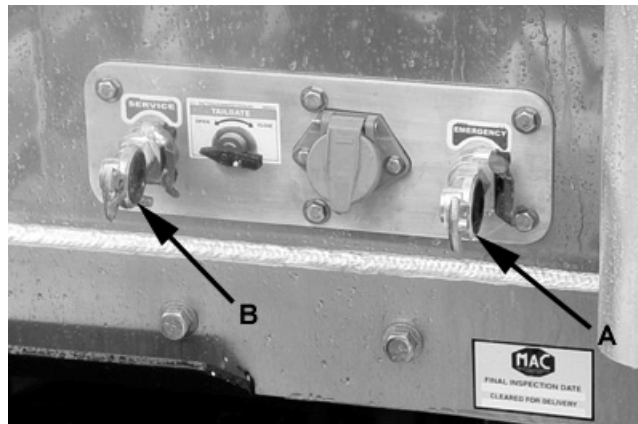

Figure 3-6 Connect Hoses And Electrical Connector
12. Connect the supply hose to glad hand (A), service hose to glad hand (B), electrical connector and if equipped, connect hoses to the lift axle and tailgate glad hands. See figure 3-6.